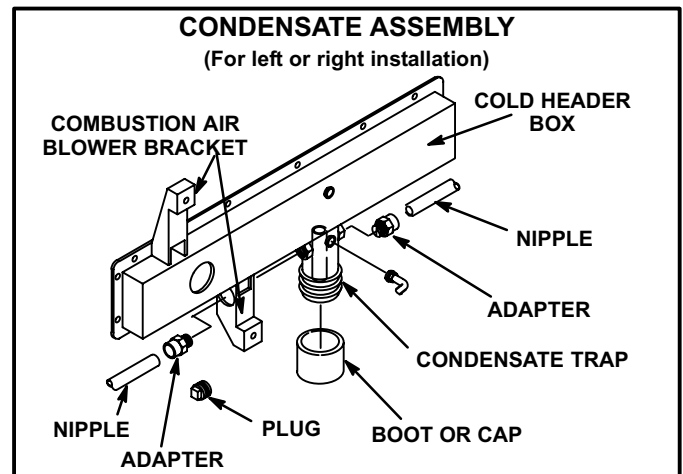

FIGURE 37
- 2 - Connect 1/2" (13mm) plastic pipe plug (provided) in the unused end of the condensate trap. Install plug so that it is sealed water tight yet able to be removed. Do not permanently seal the connection. Teflon tape is recommended to seal joint. See figure 37.